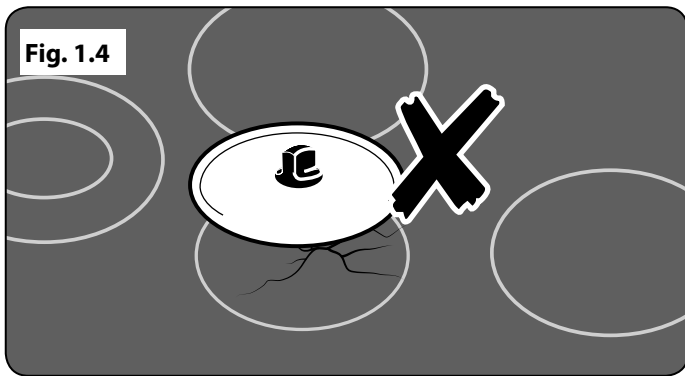

Fig. 1.4
- Take care **NOT TO PLACE HOT LIDS** onto the hob surface (**Fig. 1.4**). Lids that have been used to cover a hot pan can “stick” or create a “vacuum” effect to the Glass Hob. Should this occur, **DO NOT** attempt to lift the lid off the glass surface, this may damage the glass. Instead slide the lid to the edge of the hob surface and remove, taking care not to scratch the hob surface. Alternatively wait until the lid has cooled to room temperature, the vacuum has been released, then remove the lid by lifting it from the hob surface.